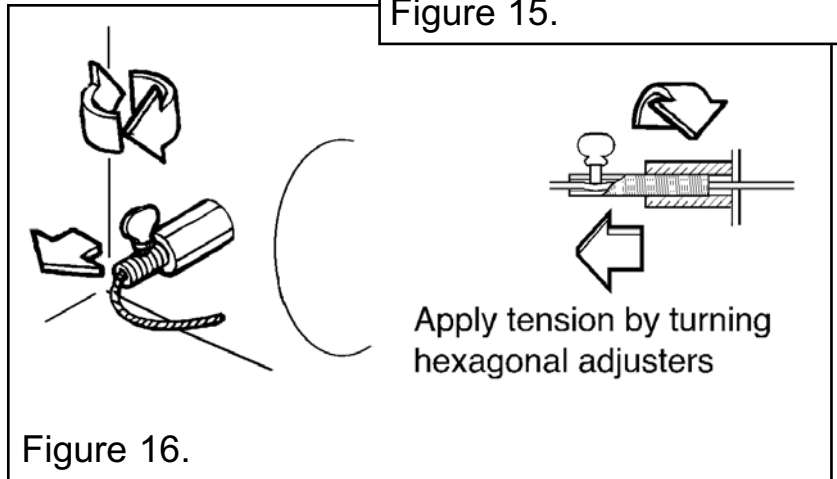

Figure 16.
9. Pull each cable taut. Push the cable retainers hard up against the back panel. Tighten the screws in the retainers so that they clamp the cables in position. Apply tension to the cables by turning the hexagonal adjusters by hand (See figure 16).